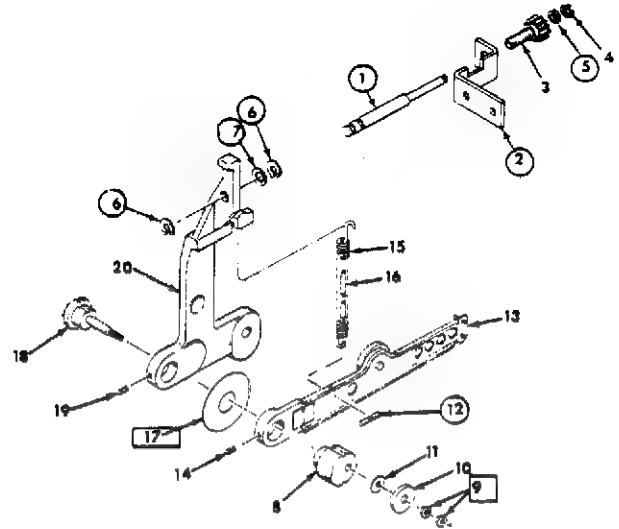
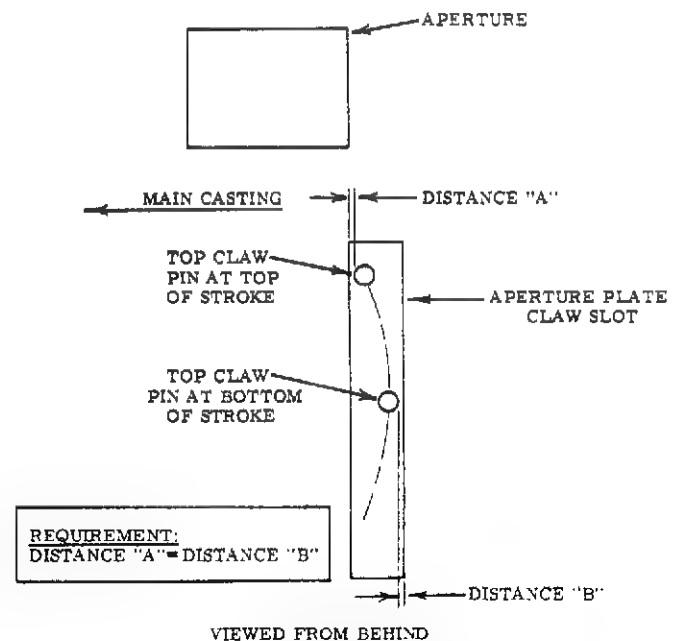
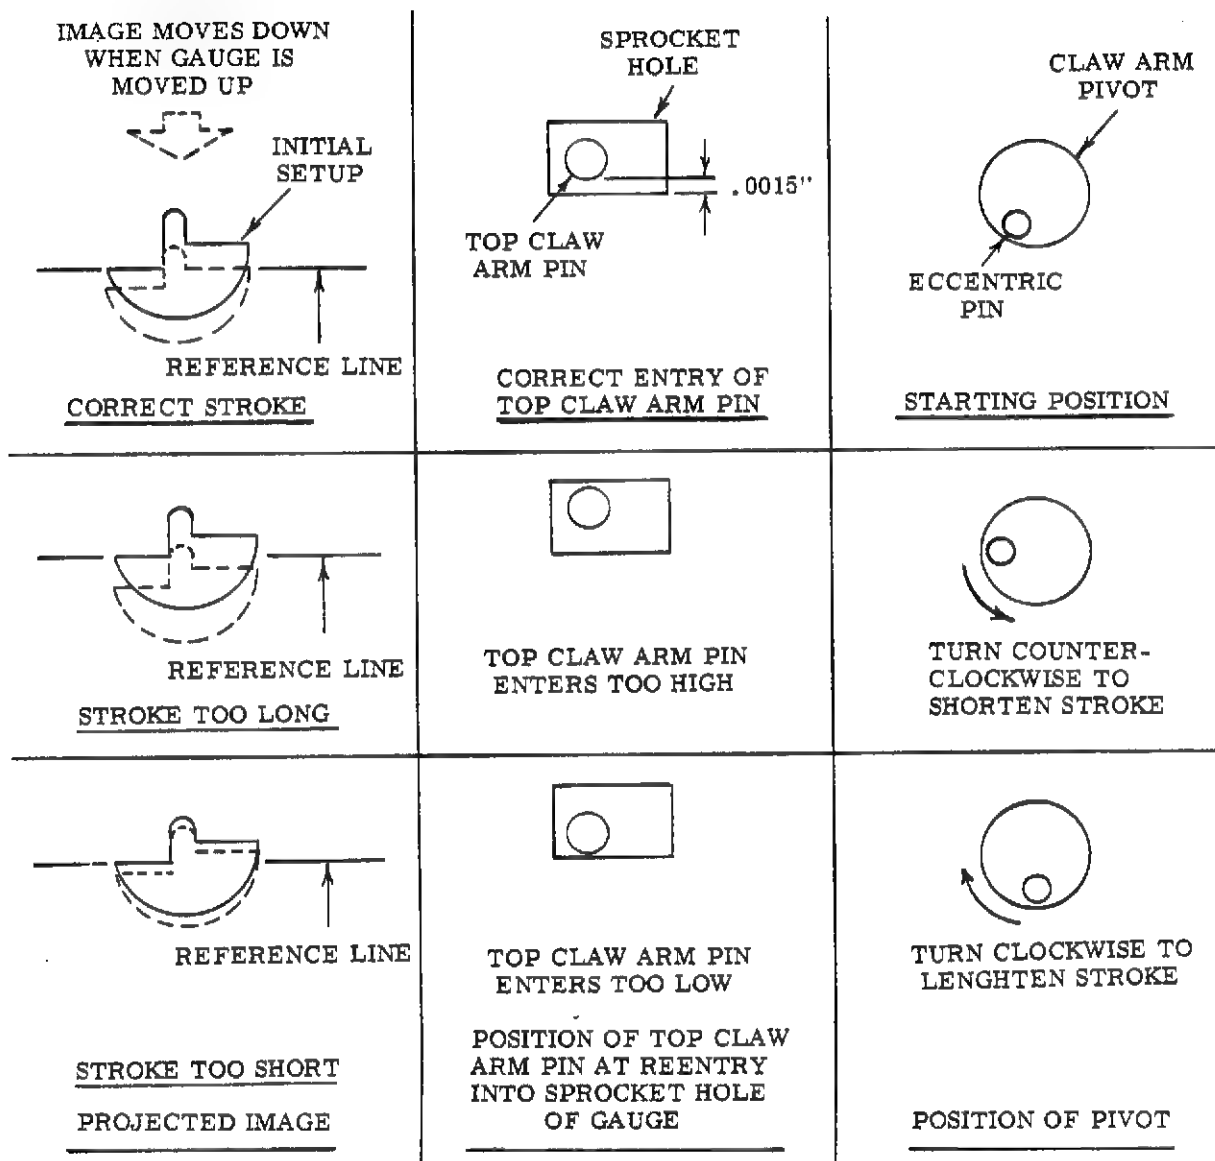

Figure 3-26. CLAW ARM ADJUSTMENTS
Figure 3-27. SIDE CLEARANCE
Figure 3-31. CLAW PULL DOWN STROKE ADJUSTMENTS
A good starting position for the Pivot (18) (Figure 3-26) places its eccentric pin at about 7 o'clock when viewed from the front of the projector. (See Figure 3-25) The notch in Bushing (8) should be slightly below the notch in Pivot (18) so an imaginary line drawn across the top of the Bushing notch aligns with the bottom of the Pivot notch.
Before attempting any adjustments, manually rotate the Inching Knob to make sure the Claw Arm pins do not strike the sides of the Aperture Plate Claw Slot. At the top of the Claw Arm Stroke, the Top Claw Arm Pin will be nearer the inside edge of the Aperture Plate Slot (Figure 3-27). At the bottom of its travel, this Pin will be nearer the outside edge of the Aperture Plate Slot. Loosen Screw (14) and adjust Bushing (8) (Figure 3-26) so these two distances are equal. (Removing the Lamphouse Cover and viewing the Pins from behind the Aperture Plate aids in this adjustment.)
Arm Pins in the sprocket holes of the film. When Framing is correct, the Top Claw Arm Pin should be the same distance from the inside edge of the sprocket hole at the top of its stroke as it is from the outside edge of the sprocket hole at the bottom of its stroke. (Figure 3-27) Loosen Screw (14) and adjust the Bushing (8) (Figure 3-26) so these two distances are equal. Remove the film from the projector after proper Framing and Side Clearance are established.
10. Adjust stroke by placing the Shuttle Cam Adjusting Tool (ST-5884) on the Claw Arm Pivot (18) (Figure 3-26), loosening Screws (14) and (19) and rotating the Pivot (18) and the Bushing (8) the same amount in the same direction simultaneously. Turn counterclockwise (as viewed from the front of the projector) to shorten the stroke, and clockwise to lengthen the stroke. (Figure 3-31)
The Top Claw Arm Pin should be the same distance from the inside edge of the Gauge sprocket hole at the top of its stroke as it is from the outside edge of the Gauge sprocket hole at the bottom of its stroke. (Figure 3-27)
Loosen Screw (14) and adjust the Bushing (8) (Figure 3-26) so these two distances are equal.